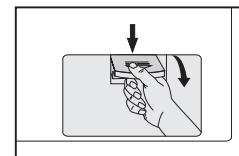

Fig 18
1.After the power is disconnected, use hand to open the filter cover (Fig 18).